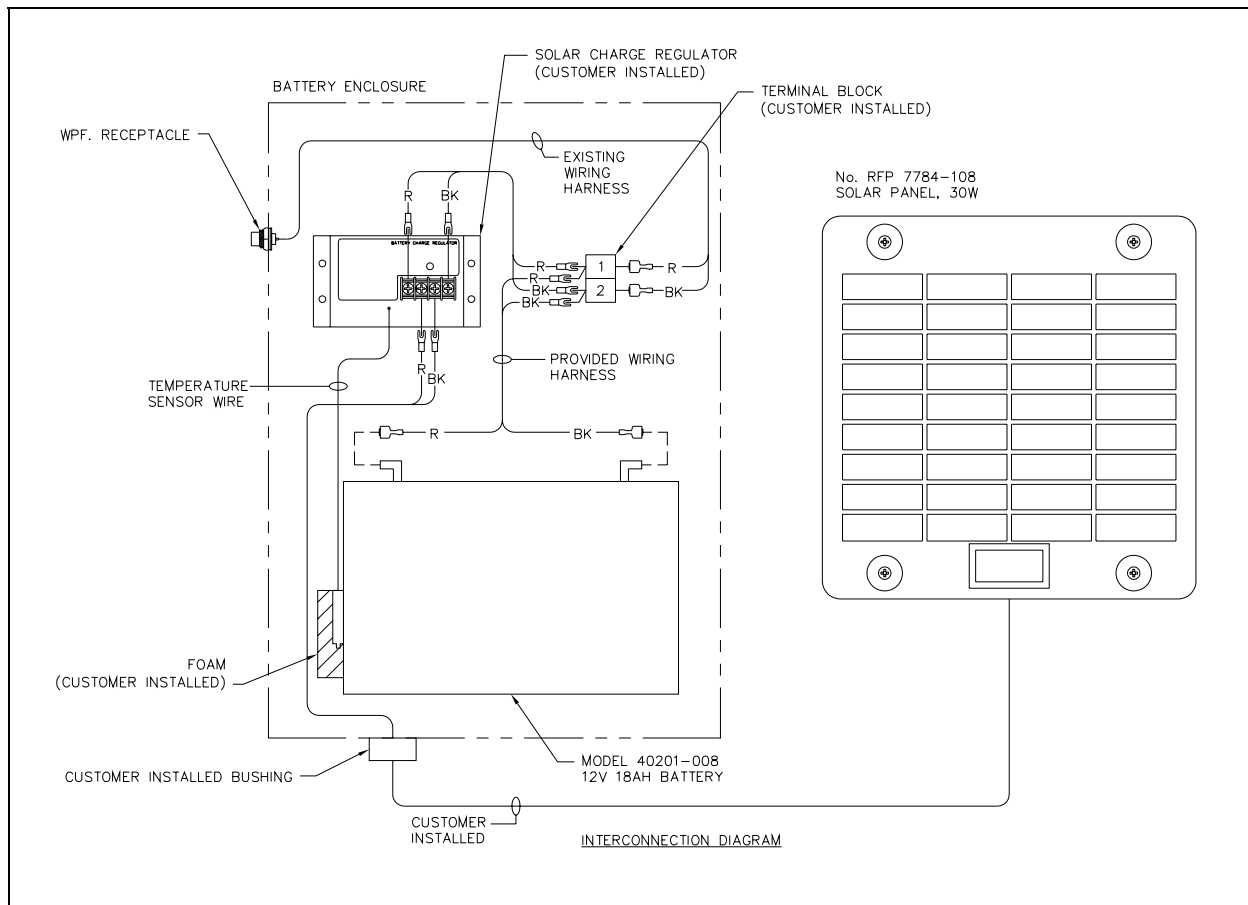

Figure 2. Interconnection Diagram
5. Install the harness assembly provided, carefully adhering to the color-coding depicted in Figure 2, the interconnection diagram.